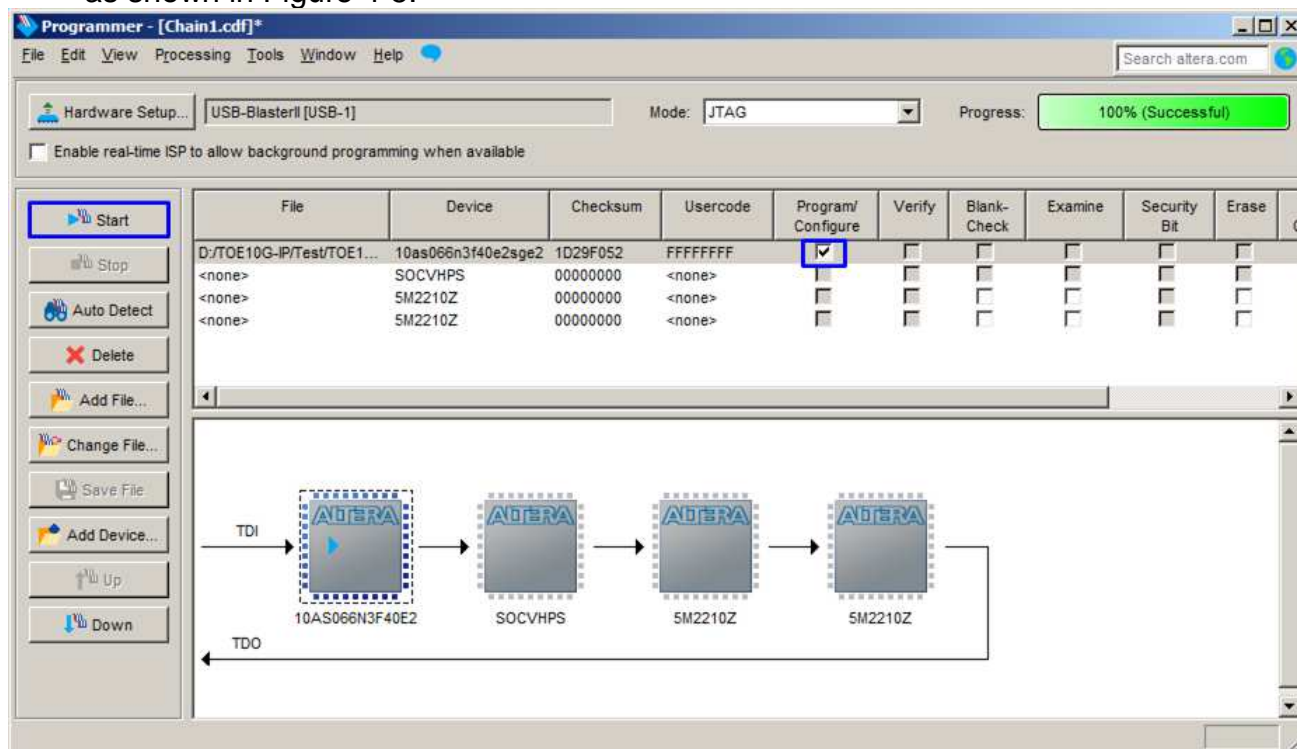

Figure 4-5 Program SOF File
- Open Quartus Programmer, select SOF file, and program file to FPGA development board, as shown in Figure 4-5.